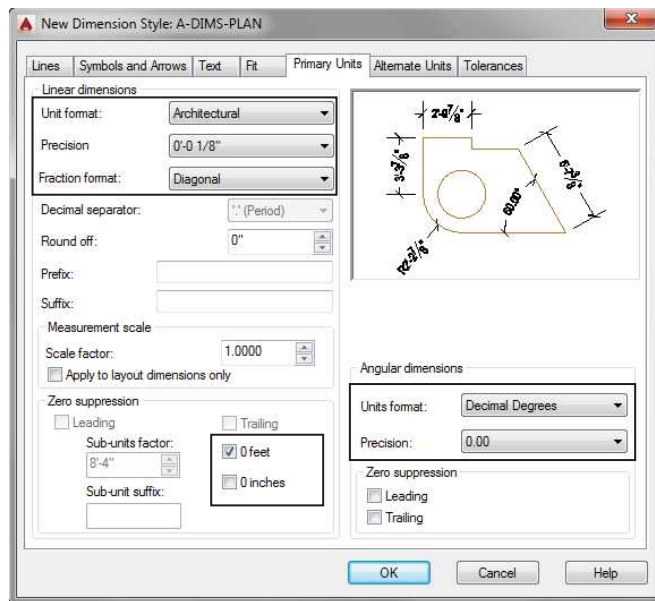

FIGURE 12.9: The Primary Units tab after changes have been made using imperial units
1. Click the Primary Units tab, and look at Figure 12.9 to see how it’s organized. As you can see in the figure, the Primary Units tab is divided into two main groups: Linear Dimensions on the left and Angular Dimensions on the right. Each of these sections has several types of settings.
After these changes, the Primary Units tab looks like Figure 12.9.